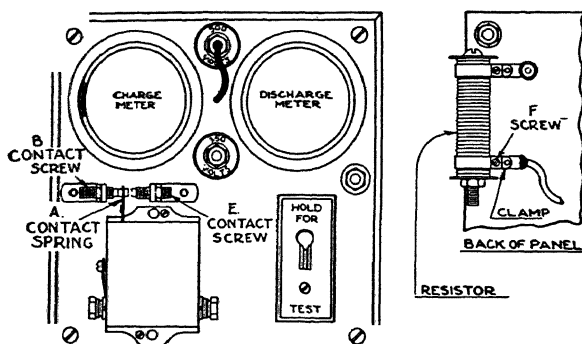

Fig. 4. The Condenser Tester
**Adjusting the Condenser Tester.** The contact spring A, Fig. 4, should rest with a slight tension against the contact screw B. Adjust the contact screw E until the discharge meter reads the same as the charge meter. If unable to get the same reading, adjust the resistor, which is located in back of the discharge meter, by loosening the screw F and adjusting with the clamp. All adjustments should be made with the 500-volt tap.